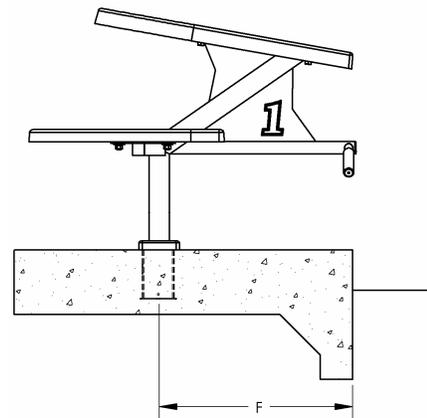

FIGURE 4
2. The setback for the anchor must be set using the correct distance "F" from the pool wall and with at least 6" from any control joint or edge of concrete slab. The correct setback distance depends on the model ordered. When the starting block is installed, the backstroke handles and leading edge of the footboard shall be flush with the pool wall. Refer to **FIGURES 4 & 5**.